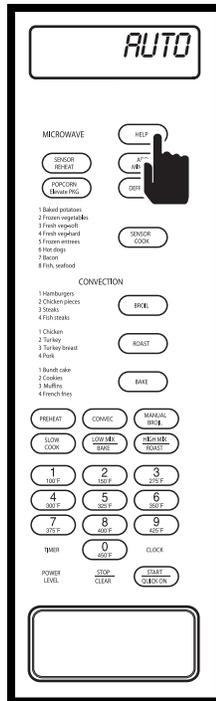

Figure 3-45. Press HELP Key
1. Press the HELP key and five help features will flash on the display, the third one will read “**AUTO - START - PRESS 3**” (See Figure 3-45).